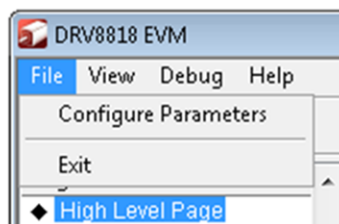

Figure 19. File Menu
- File - The File menu contains the option Exit as shown in Figure 19 below.